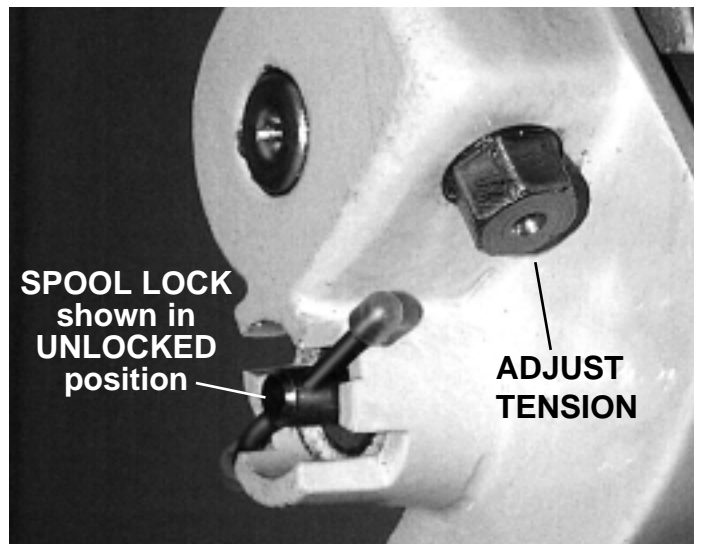

Figure 2
1. Tension is adjusted by turning the hex drive on the housing at the rear of the balancer (Fig 2). To increase tension, turn the hex drive in a clockwise direction. To decrease tension, turn hex drive counter-clockwise.
Activate spool lock (Fig 2) by pulling out slightly and rotating 1/4 turn in a clockwise direction, inserting it into hole in spool. Spool may have to be rotated slightly so lock can line up with hole. Disengage by pulling out and rotating 1/4 turn in a counter-clockwise direction.